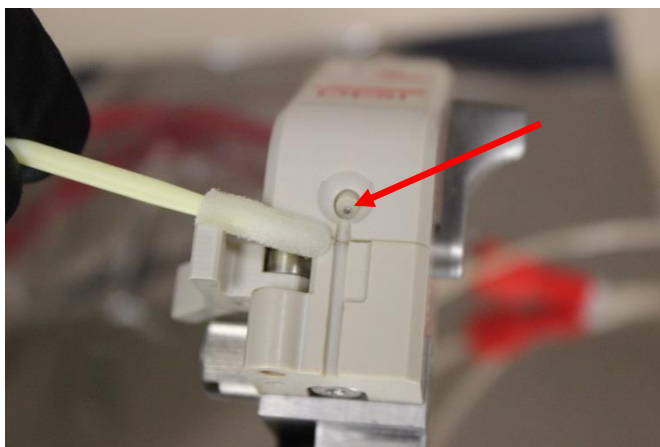

Figure 1.21 – Cleaning of the ESI/DESI Source, emitter tip (RED)
11. Now, use a new swab to clean the removed ESI/DESI source with methanol while avoiding contact with the fragile spray emitter tip (Figure 1.21). The ESI/DESI source may also be cleaned with methanol while still attached to the instrument if a "Quick Cleaning" is desired. In this case, the instrument would not need to be powered down, as